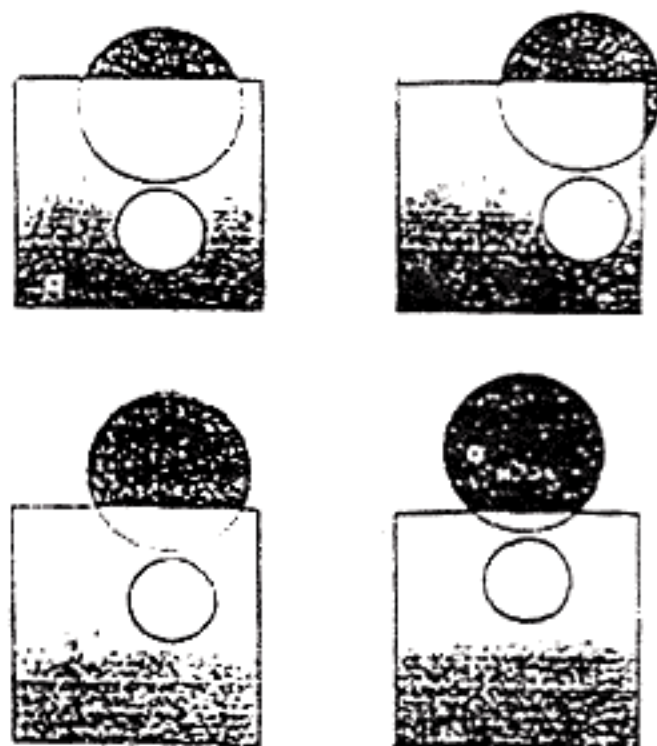

Figure 4 - Position of Stop Block.
Step 4: The STOP BLOCK must be positioned in one of four ways. See Figure 4. Always position the STOP BLOCK so that it is as close as possible to the center DIE, while still allowing for the thickness of the stock.